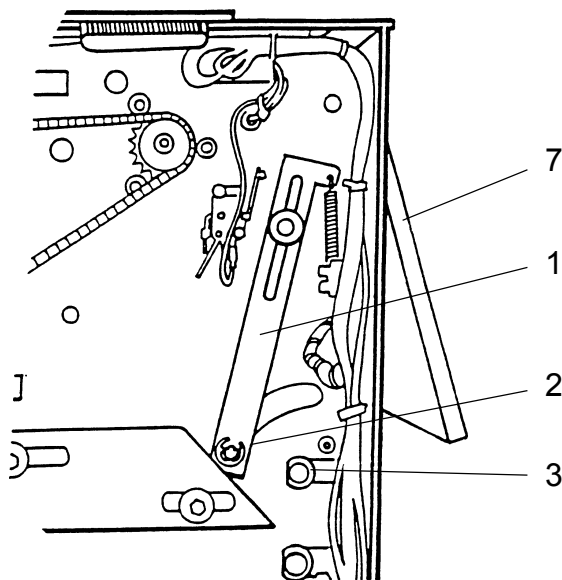

FIGURE 1
7. Raise the upper knife to the top position by turning crank shaft (13).
8. First tighten the screws (11) a little according to the sequence A-F Figure 1.
3. Remove springs (7) and six of the screws holding upper out feed cover (top pair remains).
4. Open top cover and tilt upper out feed cover according to fig. 1.
5. Remove E-clip, spring bracket (1), plastic washers and needle bearings (2) from compressing shaft.
6. Remove E-clips (6) at outer compressing brackets and push/pull out shaft.
10. Loosen the two screws (4) and remove the upper feed belts (5).